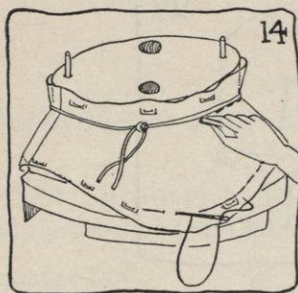

FIG. 14.
- a. Mark headsize and edge with basting or with chalk (see Figure 14).